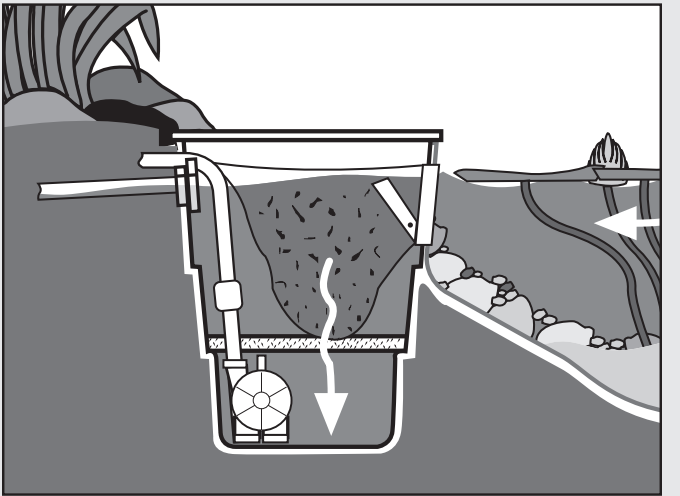

Fig. 15 Single pump and overflow
- Excavate a trench for a section of PVC Flex pipe to come off the back of the desired bulkhead. The trench should be no less than 5 ft from the back of the skimmer and be graded away from the pond (See fig. 15).